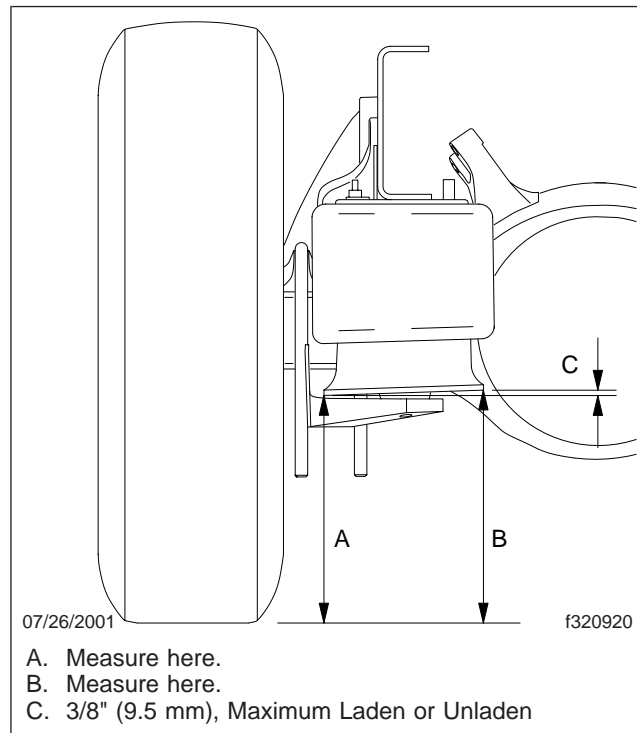

Fig. 8, AirLiner Leaf Spring Kick-Twist Angle Measurement
- From the rear of the vehicle, measure the distance from each end of the air-spring piston to the ground. See Fig. 8. Repeat each measurement three times to ensure accuracy.